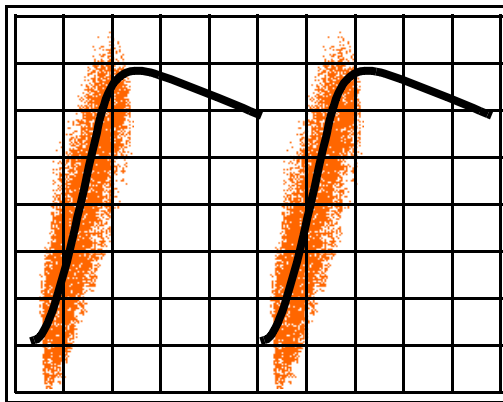

Figure 3.1-1. Booster Board Charge Cycle as Seen on an Oscilloscope, 2 ms/div.
2. Use a differential probe, connected between B ++ (upper right hand corner when key switch on right hand side) and LOAD – (the inner lead of capacitor C 44, upper left hand corner) to monitor the booster board charging cycle. An example of the charge cycle at 100 Hz is shown in Figure 3.1-1. The black solid line shows the increase in voltage across the capacitor bank as it is being charged by the booster boards. The grey diffuse area around it is due to the voltage spikes caused by the switching of the FETs. If the ramp up is much slower than shown in Figure 3-1 one of the booster boards might be defect.